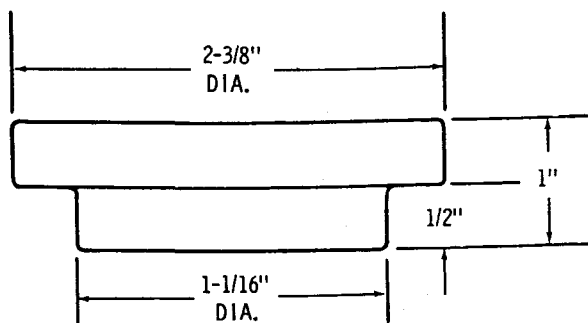

FIG. 131 1/32" RADIUS ALL CORNERS TS-8428
2. Apply light coating of Permatex No. 2 to outer diameter of wheel shaft oil seal and press seal into spindle (Fig. 130). Seal driver dimensions are given in Fig. 131. Wipe off excess Permatex. Lip of oil seal must face downward with spindle as shown. Coat lip of seal and wear surface of bushing with Lubriplate.